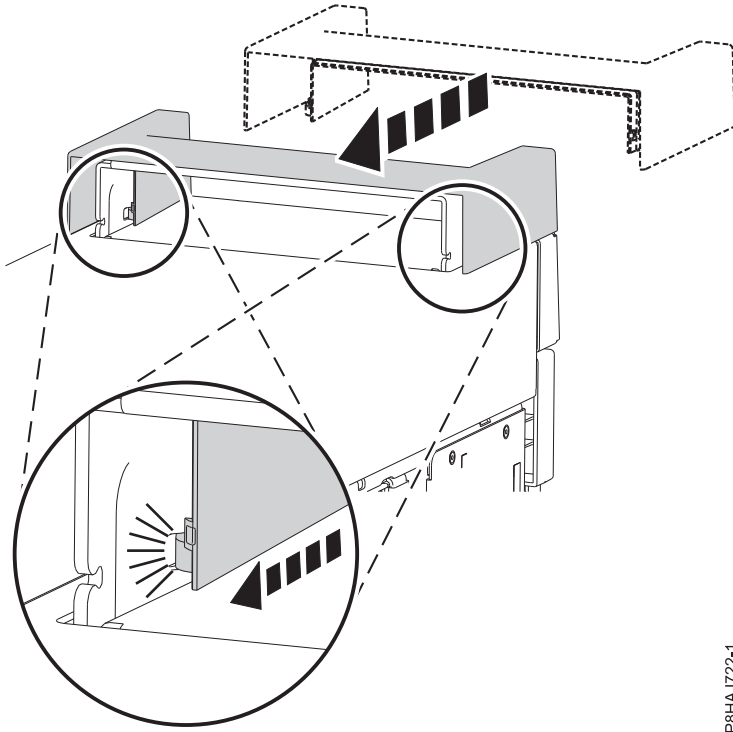

Figure 16. Securing the handle cover in an 8286-41A stand-alone system
1. Secure the handle cover to the internal RDX docking station (FC EUA3) by sliding it toward the rear of the system. See Figure 16.